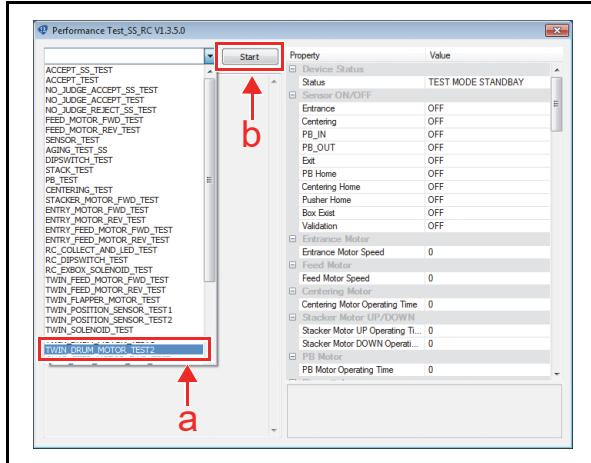

**Figure 6-50 Drum 1 Motor Speed Test (RT Transport) 2**
5. The measured speed will appear in the “RC-Drum Motor 1 (RC-Twin)” area (Figure 6-50 a) on the Screen.
7. Click the “Stop”  Screen Button (Figure 6-50 b) to end the test.